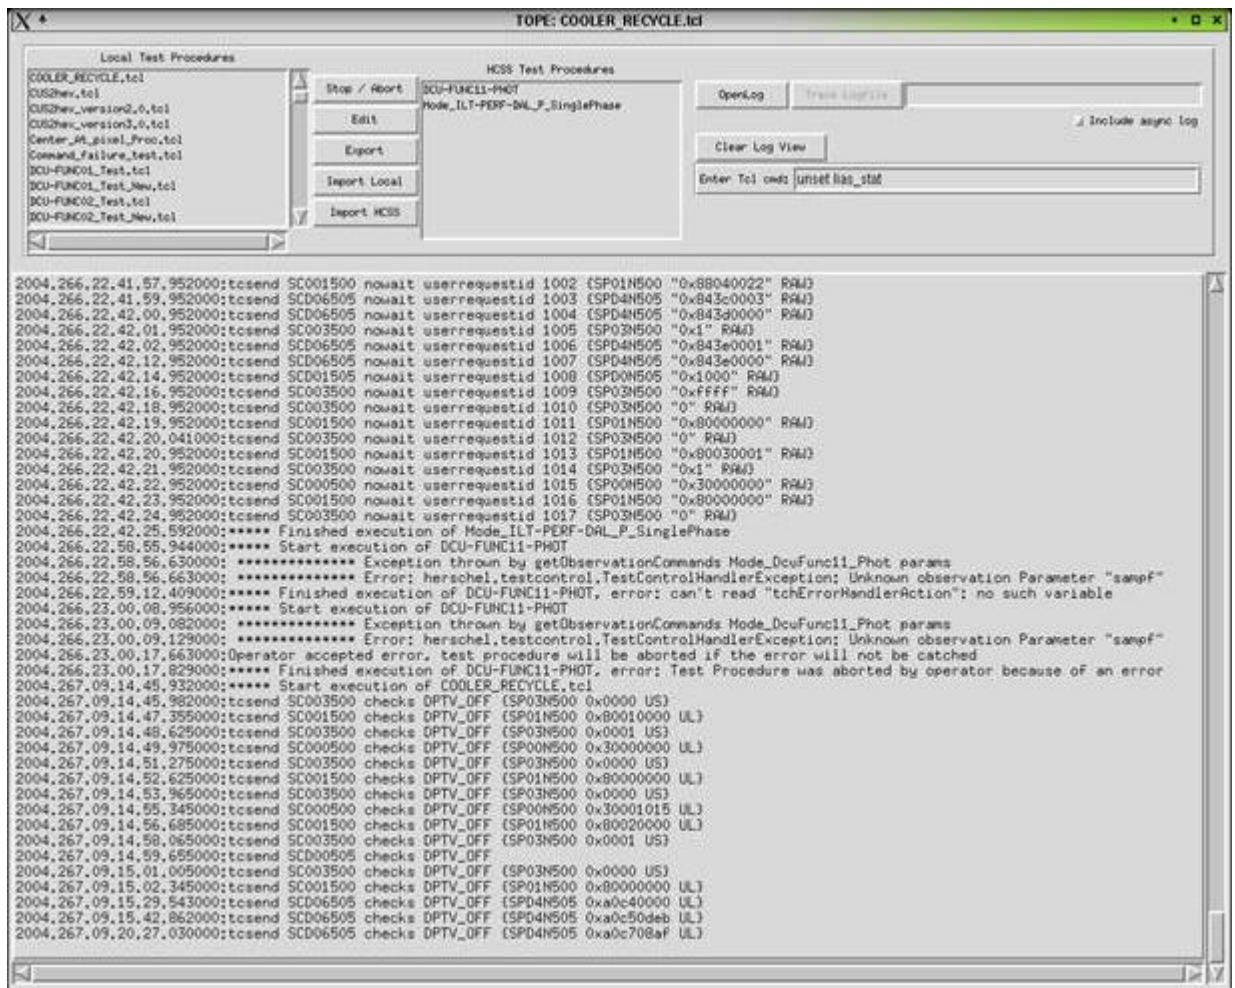

Figure 3: TOPE window
- 2) In TOPE window (**figure 3**) from SCOS select **COOLER\_RECYCLE.tcl** procedure from the top left sub window by **single** clicking on the procedure name.